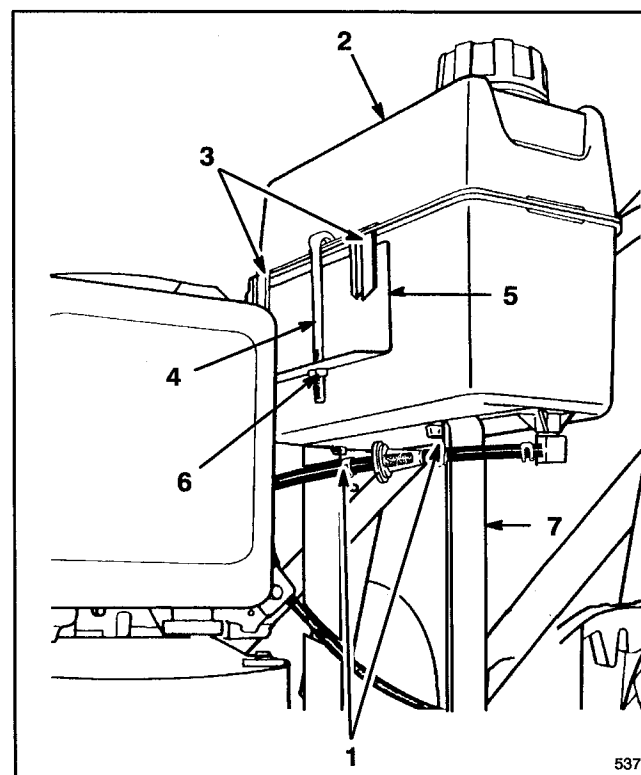

Figure 2
2. Hook plastic clips on front of gas tank onto gas tank bracket (Fig. 2).
3. Secure gas tank to tank base with the (2) self-tapping screws (Fig. 2). Do not overtighten screws.
4. Hook gas tank retainer onto rear of gas tank and slide end of retainer into hole in tank bracket. Secure retainer to tank bracket with locknut (Fig 2). Do not overtighten locknut.